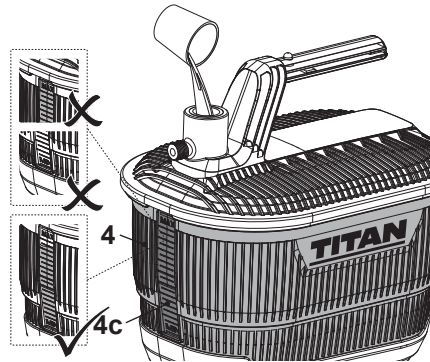

Fig. 8
3. Pour water into the water tank (4) until the water level reaches between the **MIN** and **MAX** markings on the water level indicator (4c) (Fig. 8). Use a funnel if necessary. Do not overfill. Drain the water tank (4) if the water level exceeds **MAX** level.